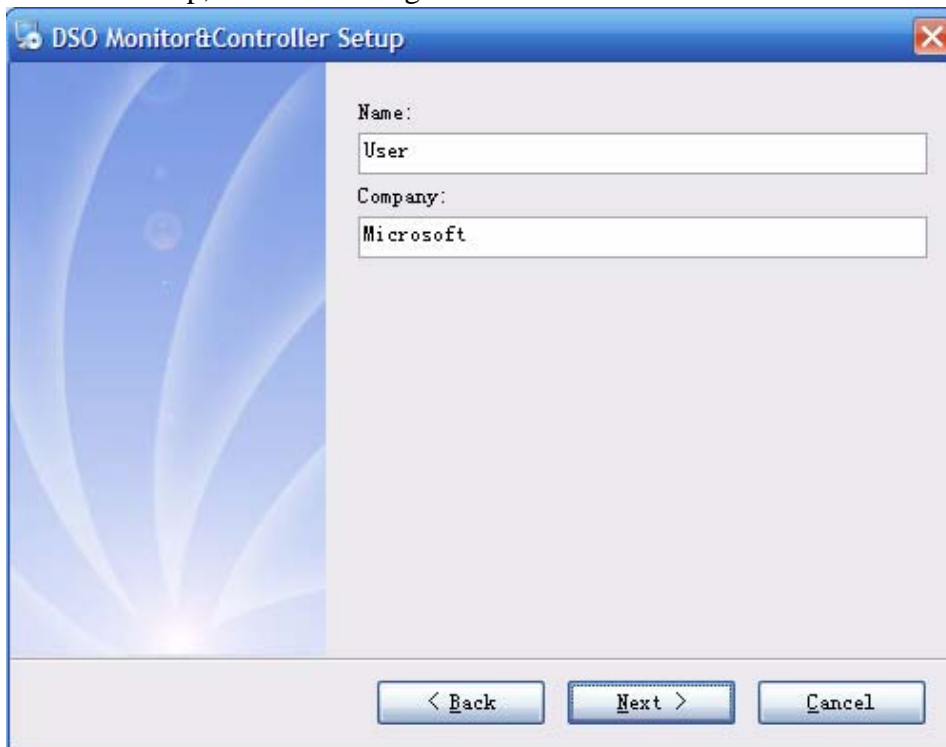
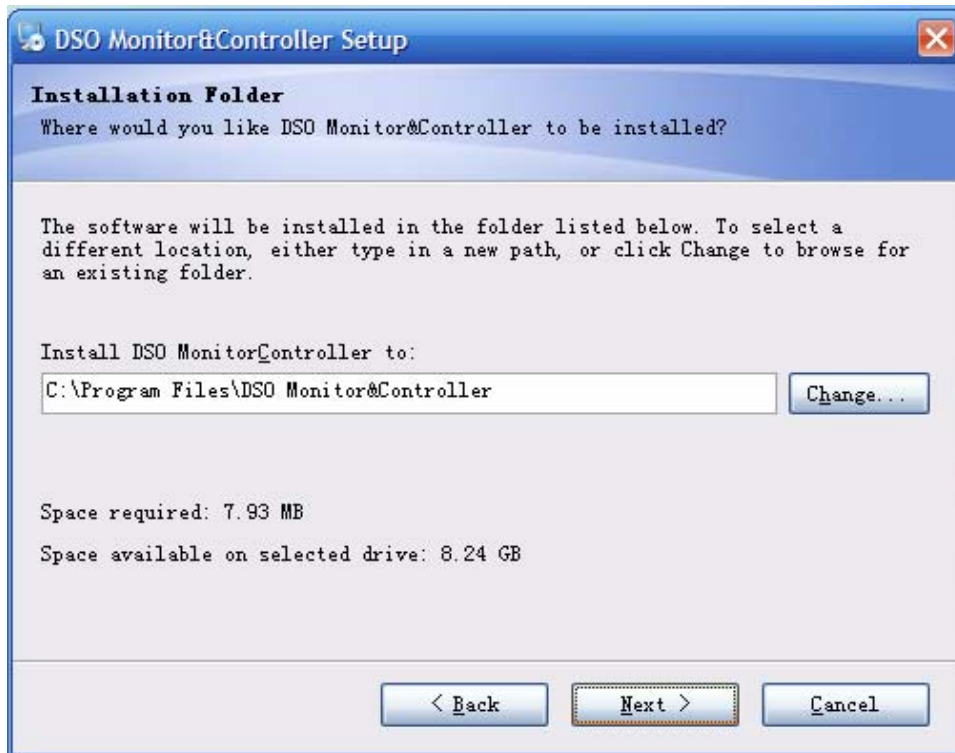
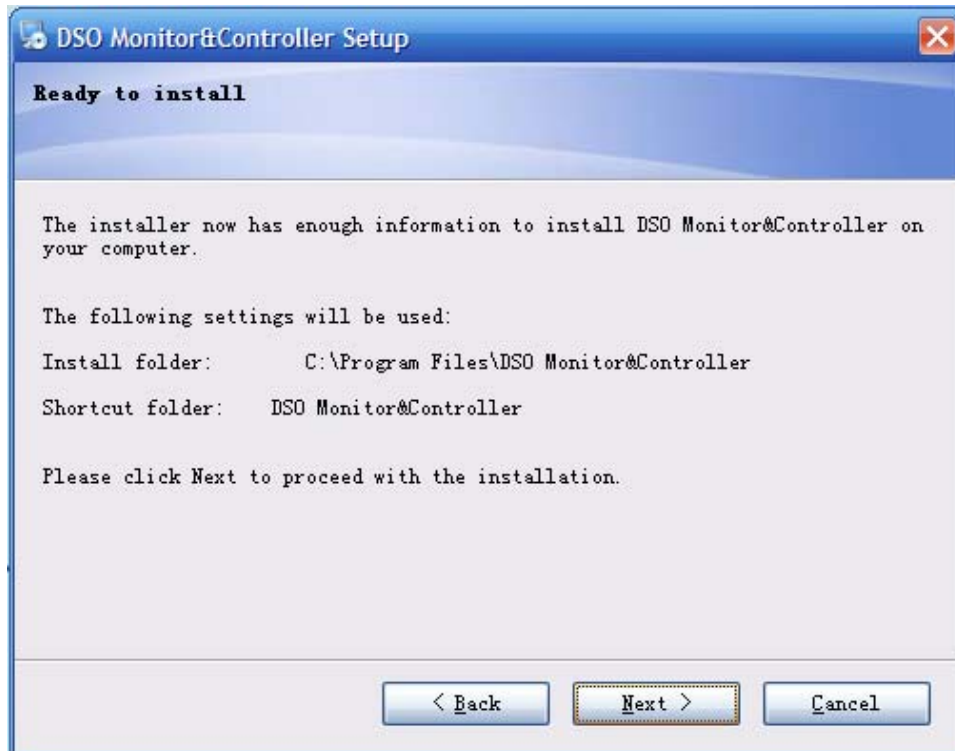
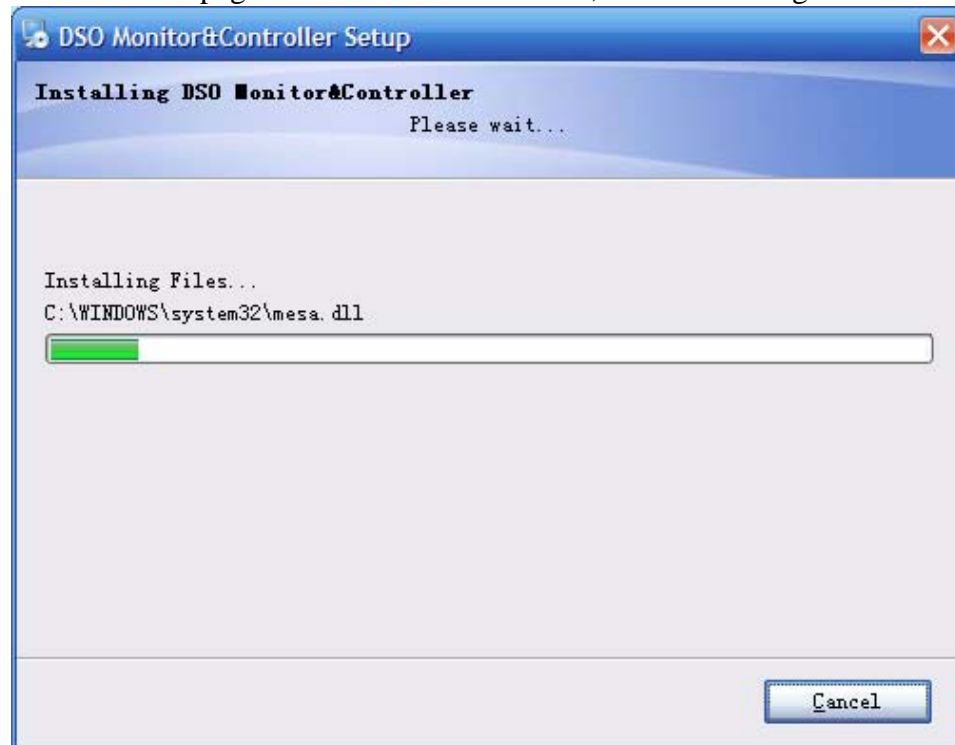

Figure 1-3
Figure 1-4
Figure 1-5
Figure 1-6
Step three : Read the prompt in Figure 1-2 then click the **NEXT (N)** button to enter the next step, as shown in Figure 1-3.
Step four : In Figure 1-3, enter your user name and company name, then click the **NEXT (N)** button to enter the next step, as shown in Figure 1-4
Step five : In Figure 1-4, click the **CHANGE (H).....** button to specify the installation path of the software, then click **NEXT**. You can also click **NEXT** directly to use the default path. Enter the screen shown in Figure 1-5.
Step six : In Figure 1-5, after checking that the message is correct, click **NEXT (N)** to enter the page for automatic installation, as shown in Figure 1-6.